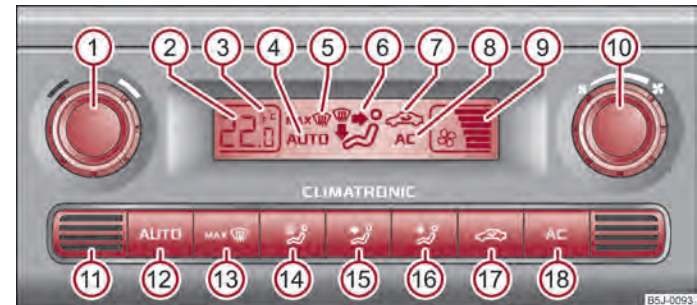

Fig. 76 Climatronic: Control elements
- Press the button (AUTO) ⇒ fig. 76.
Press and hold the buttons (AUTO) and (AC) ⇒ fig. 76 at the same time. The information in the desired temperature measuring unit appears in the display.
- Press the button **MAX** ⇒ fig. 76.
- Turn the control dial ⑩ ⇒ fig. 76 to the left (reduce blower speed) or right (increase blower speed).
- Press the button   => fig. 76,  appears in the display.